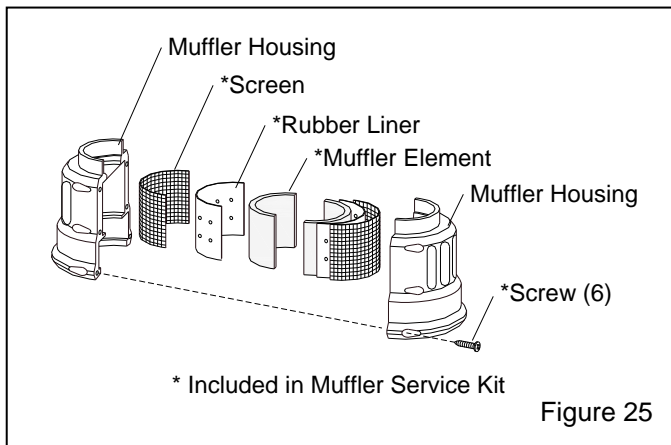

Figure 25
**6.5 Exhaust Muffler, Figure 25**